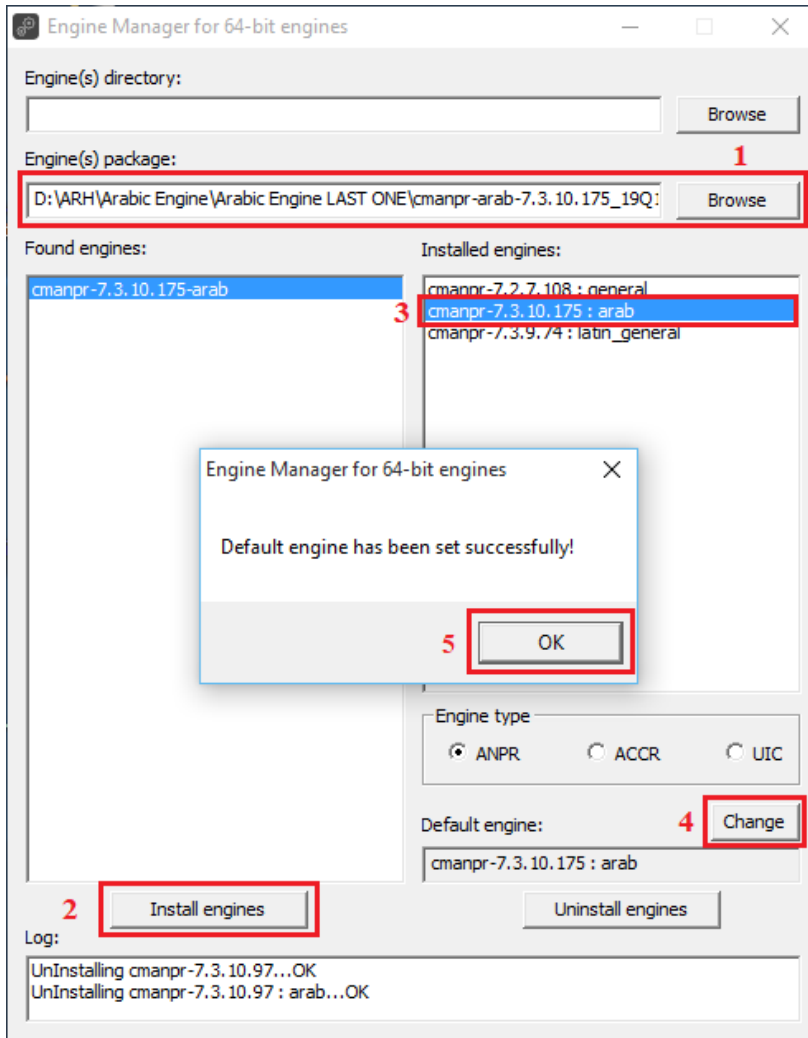

FIGURE 14: INSTALL ARABIC ENGINE
Click on **Browse** (1) and navigate to the Arabic engine folder and choose either “cmanpr-arab-7.3.10.175_19Q1-x64” or “cmanpr-arab-7.3.10.175_19Q1-x86” depending on your platform. Then click **Install engines** (2) and select the downloaded Arabic engine from the **Installed engines** (3) and click on **Change** (4) to set it as default engine, you will be notified that the “Default engine has been set successfully” as shown in **Figure 14**, click on **OK** (5).